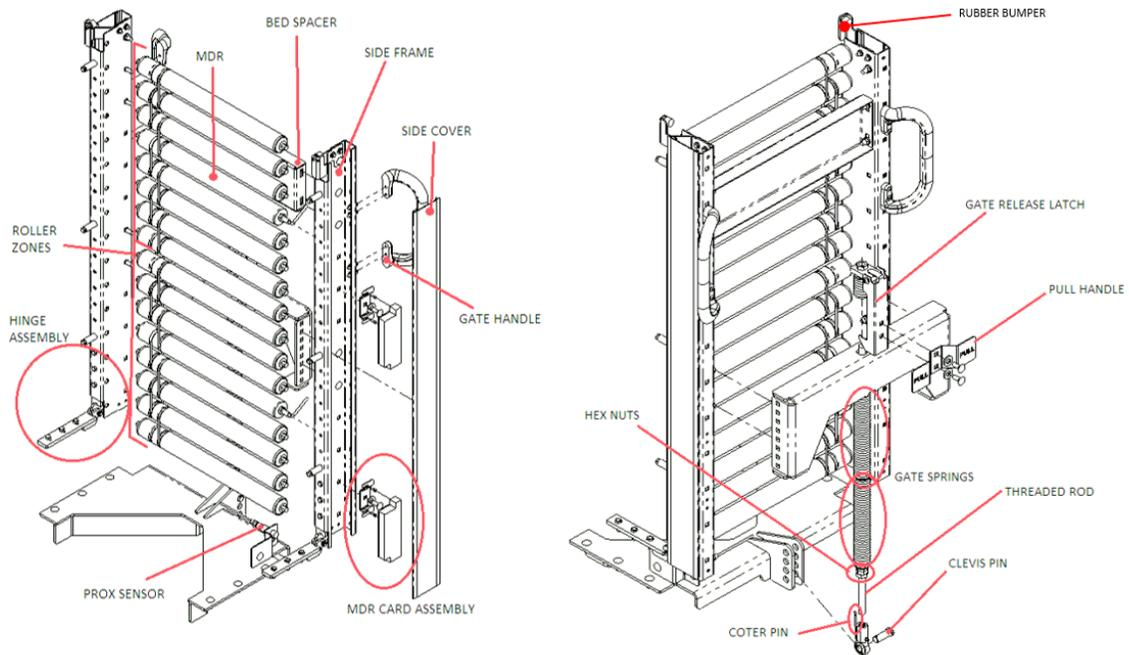

Figure 1: RLVDCCG General Arrangement
The model shown in Figure 1 serves as a reference to become familiar with the components and terminology used in this manual. These terms will be used throughout the manual and are common among many of the other Bastian Solutions’ conveyor product lines.
The model in Figure 1 shows a 4' RLVDCCG. The RLVDCCG has 3" roller centers and has (2) 24" zones. Each zone is made up of (7) rollers and (1) MDR. The rollers and MDRs each have two grooves that allow them to be banded together with O-rings. Each gate utilizes springs to make opening and closing the gate lightweight and easy to use.